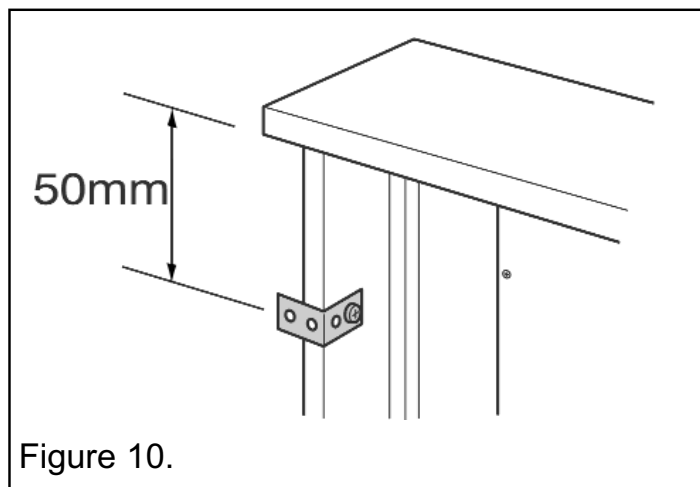

Figure 10.
- Place the wall fixing brackets 50mm from the top outside edge of the legs as shown in figure 10. Secure in place using a screw (J).